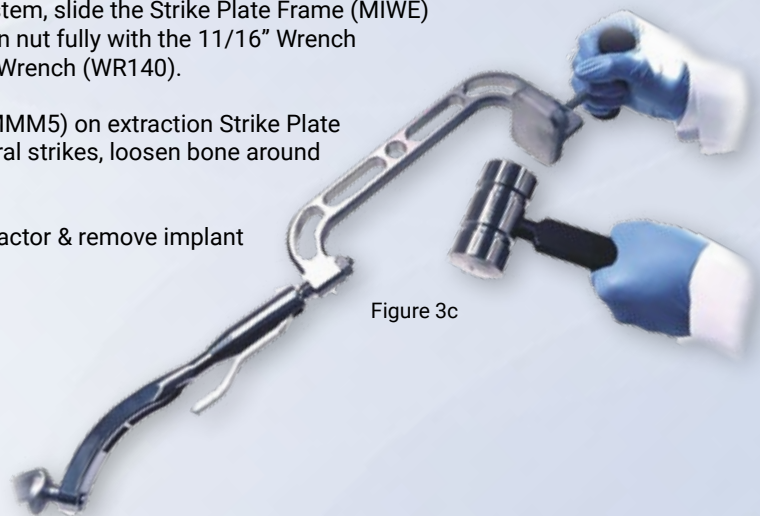

Figure 3c
5. Extract implant with repeated strikes of the Mallet (MMM5) on extraction Strike Plate Frame (Fig. 3c). If implant resists removal after several strikes, loosen bone around implant prior to continuing.